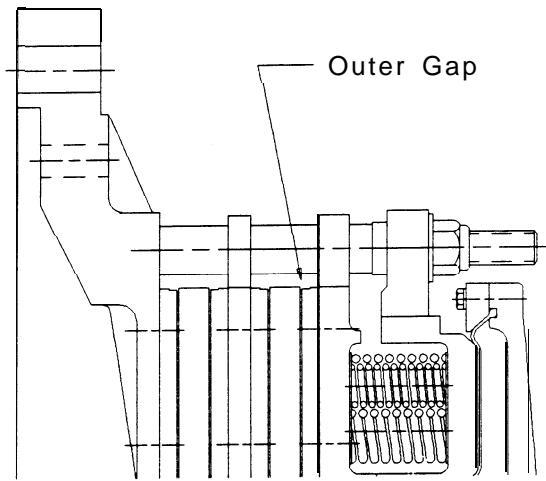

Fig. 9
- 2.6.5 Measure the gap between the outer disc and friction disc which is mounted on the pressure plate. See Fig. 9. The motor shaft should be thrust out (towards the brake end) to its axial limit when determining this dimension.